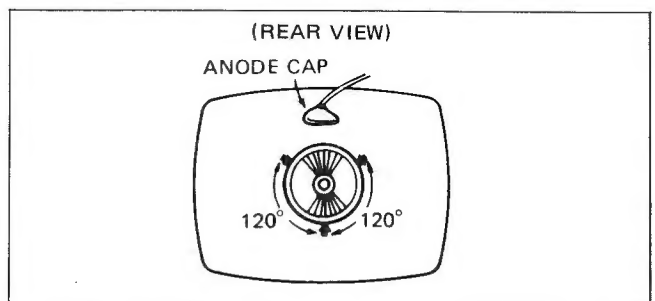

Fig. B-10
9. Insert three wedges to the position as shown in Fig. B-10 to obtain the best circumference convergence.